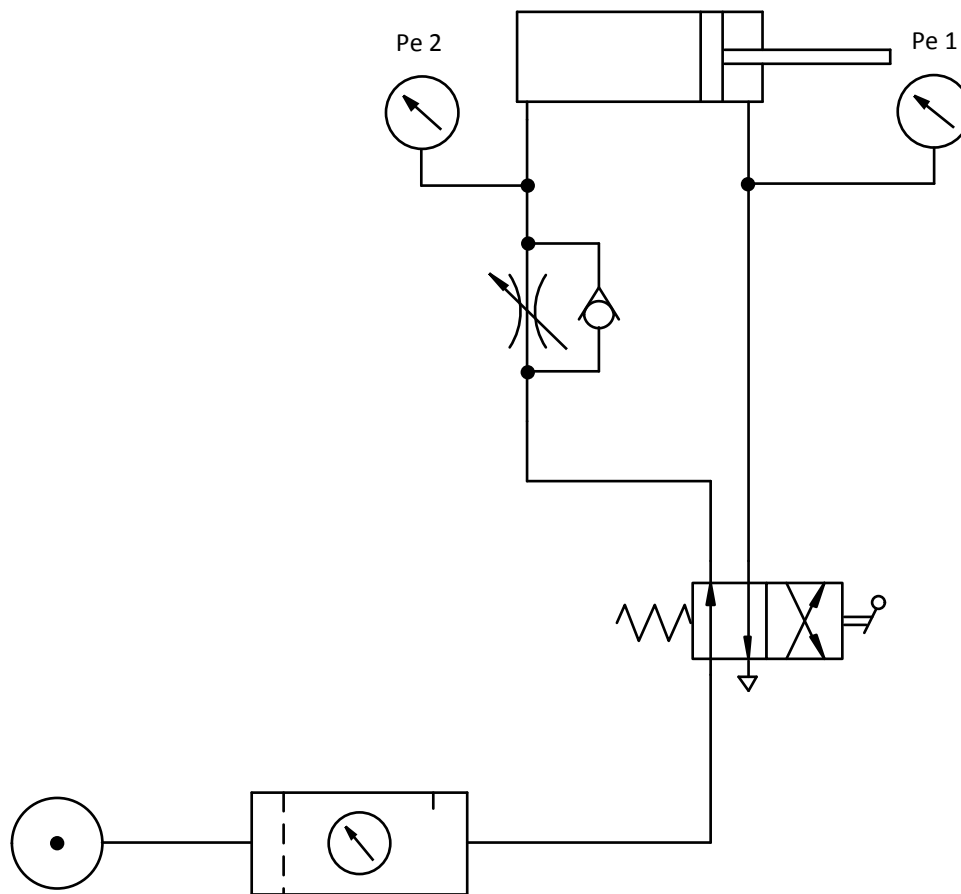

FIG 7.
- C. When the 4/2-way directional control valve is operated, the supply air flowing to the cylinder is throttled by the one-way flow control valve. (Fig 7)